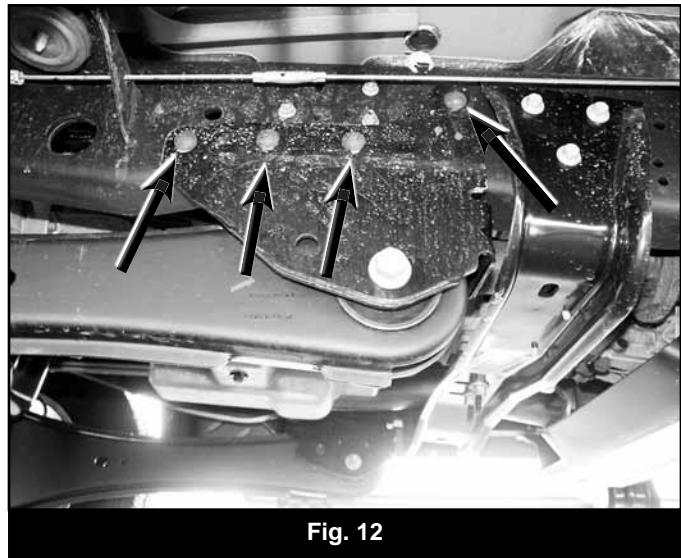

Fig. 12
30. Locate the seven rivets that attach the OE radius arm mounting bracket to the frame. There will be four on the outside and three in the inside of the bracket fastening the bracket to the bottom of the frame. (Fig. 12)